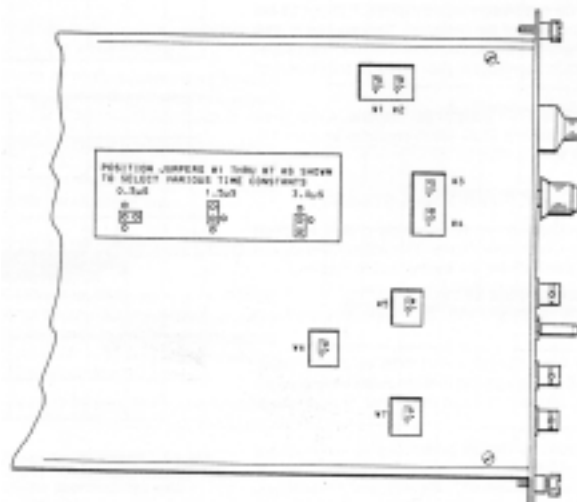

Fig. 5. Settings for Time-Constant Jumpers.
**SHAPING** PWB jumpers, easily accessed through the side panel, select equal integration and differentiation time constants to shape the input pulses. Settings are  $0.5$ ,  $1.5$ , and  $3\ \mu\text{s}$ . Illustrated drawings and instructions for setting time-constant jumpers are shown in Fig. 5.